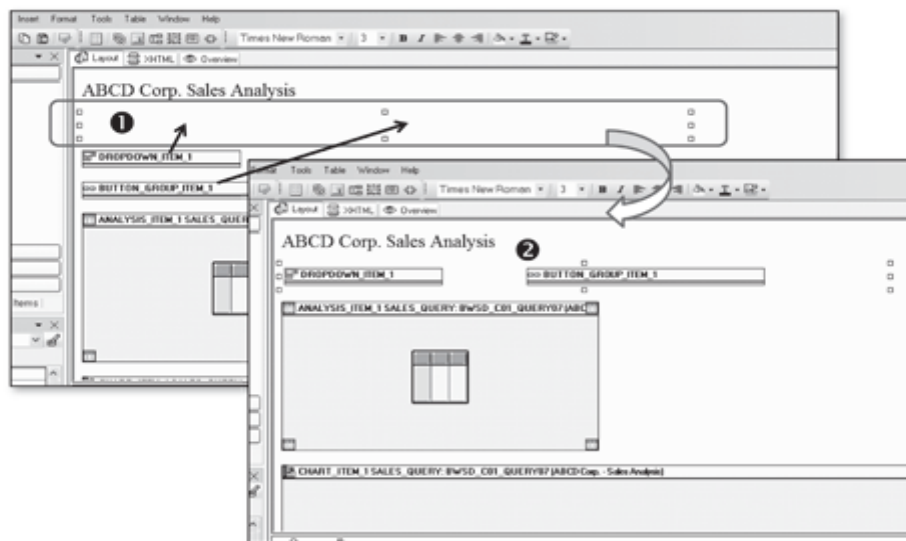

Figure 11.16 Arrange Web Items in a Table
The table is inserted in the web template layout per the settings (see ❶ of Figure 11.16).